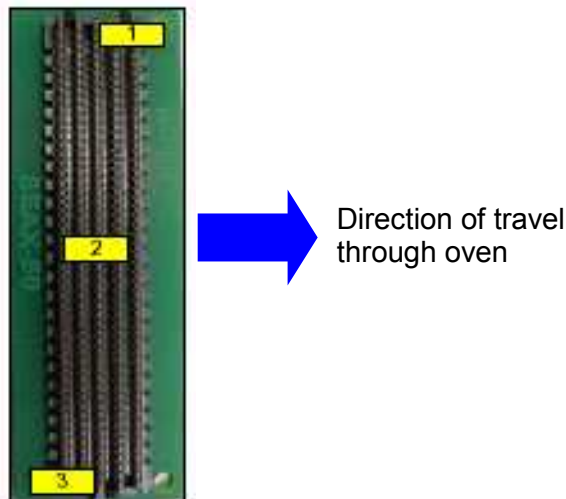

Figure 11: Thermocouple Placement
Correct reflow should be confirmed by placing 3 thermocouples underneath the connector, one (1) on the leading corner position, one (2) in the middle and one (3) on the trailing corner as shown in figure 11 (drilling through the PCB may have to be undertaken to accomplish this). This will need to be done on both the plug and receptacle since differences in their general construction may effect the amount of time required to reach reflow temperatures.